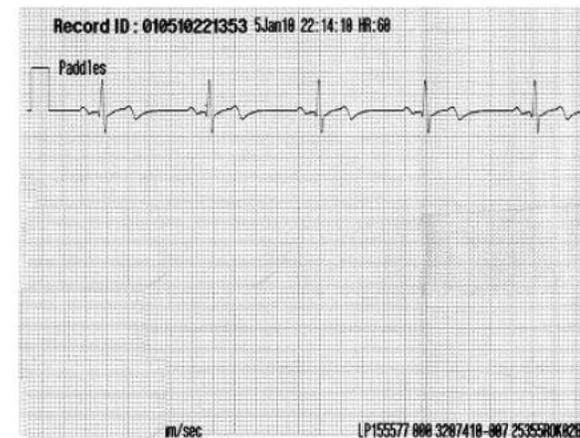

Figure 1.45—QUIK-COMBO ECG A positive R-wave test printout
6. Confirm the positive R-wave referenced from baseline recorded on printer paper as shown in Figure 1.45.